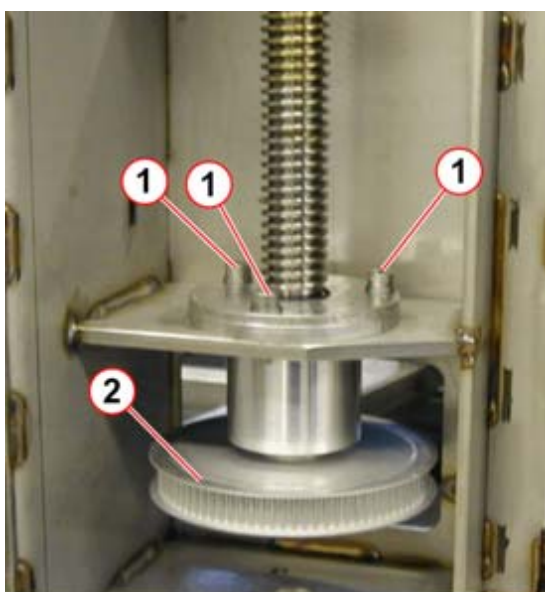
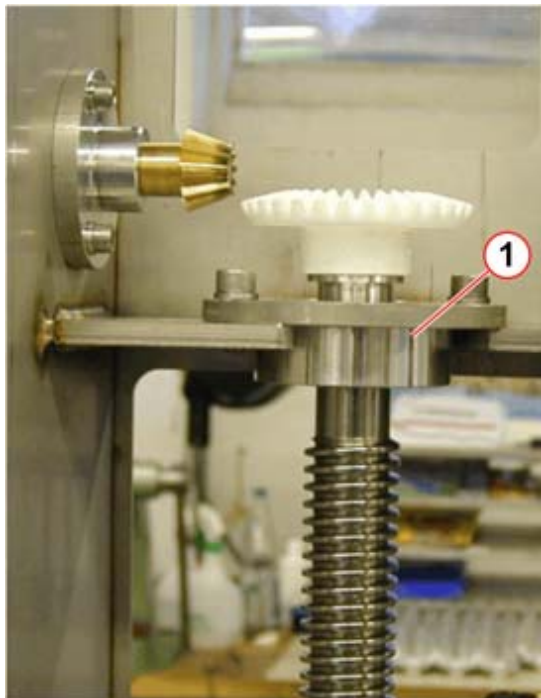

Fig. 16: Belt pulley
Fig. 17: Upper spindle bearing
- Remove the belt pulley (2/Fig. 16 / p. 22) on the lifting spindle using an 13mm spanner (pull it off toward the bottom).
- Remove the three screws on the lower spindle bearing (1/Fig. 16 / p. 22).
- Remove the upper spindle bearing (1/Fig. 17 / p. 23).
- Tighten the screws on the upper and lower spindle bearing (1/Fig. 16 / p. 22), (1/Fig. 17 / p. 23).
- Place the toothed belt pulley (2/Fig. 16 / p. 22) on the spindle and secure it with the screw.
If the spindle nut cannot be moved from side to side, the upper spindle bearing (1/Fig. 17 / p. 23) must be shifted in position until the spindle nut can be moved freely.